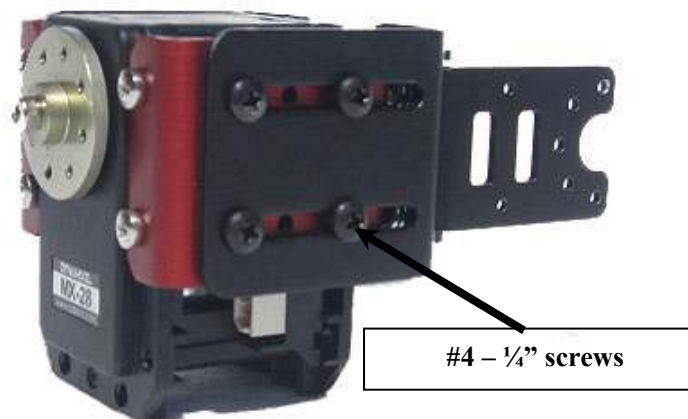

Figure 54
3. Slide the assembly from step 1 onto the side of the MX bracket in figure 54 and squeeze the assembly together and center them to ensure the proper spacing for the brackets. Once the assembly width has been adjusted, slide off the assembly from step #1 and tighten the lock nuts.
4. Using (8) #4 1/4" screws, install the assembly from step 1 to the assembly in step 2 as shown in figure 54. (Install the #4-1/4" screws into the Pem nuts on the MX bracket).